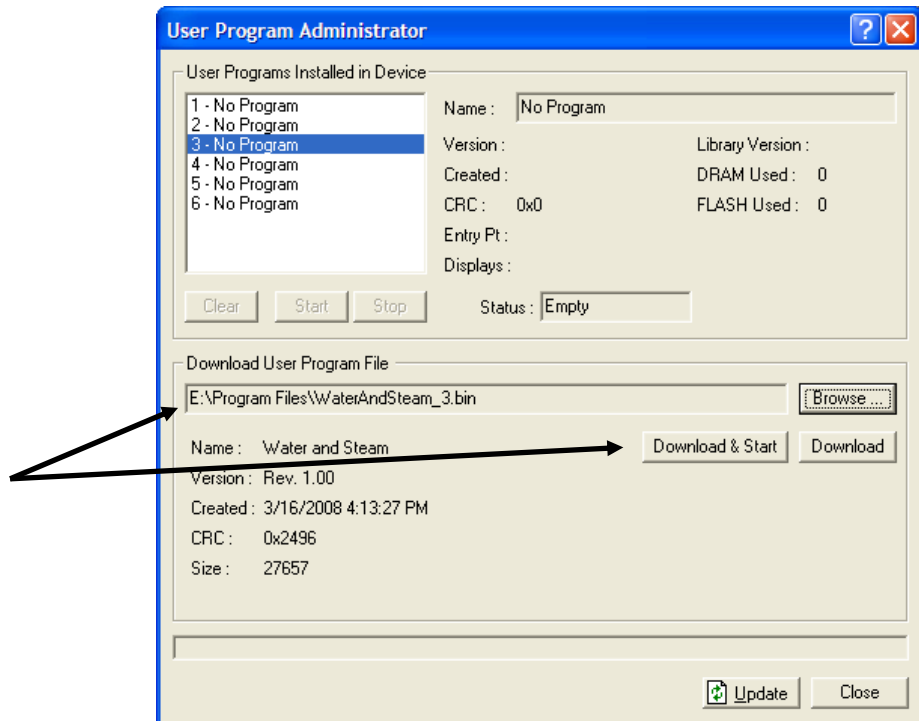

Figure 6. User Program Administrator
6. Click **Open** to select the program file. The User Program Administrator screen displays. As shown in Figure 6, note that the Download User Program File frame identifies the selected program and that the **Download & Start** button is active: